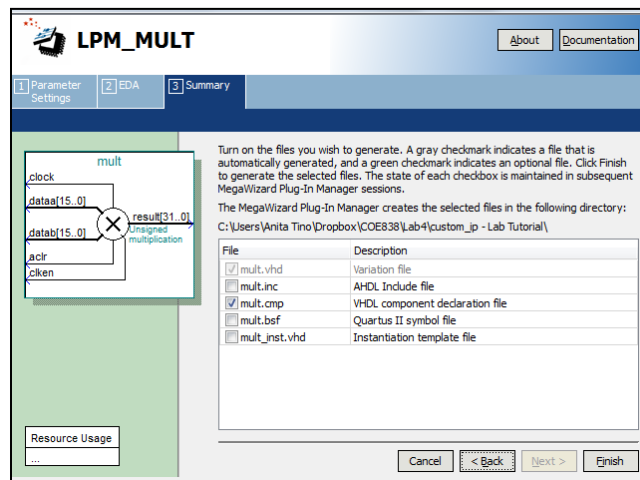

Fig. 1: LPM\_MULT Summary
- iii. The rest of the options should be disabled. The LPM\_MULT component block diagram should resemble that of Fig. 1.